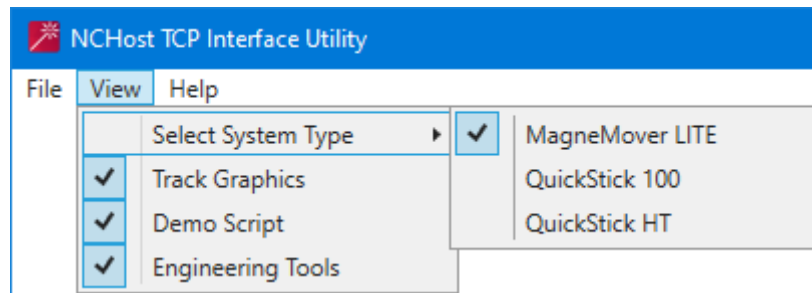

Figure 2-9: View Menu
4. Select the viewing options from the **View** menu, see Figure 2-9. See Main Window on page 142 for detailed descriptions of all items. These selections determine the options that are displayed in the user interface.